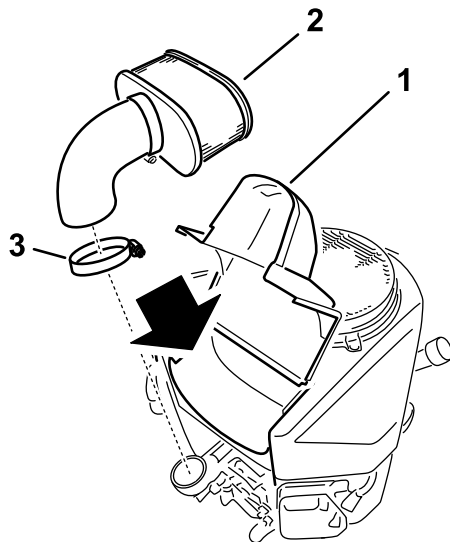

Figure 32
4. Loosen the hose clamp and remove the paper element (Figure 32).